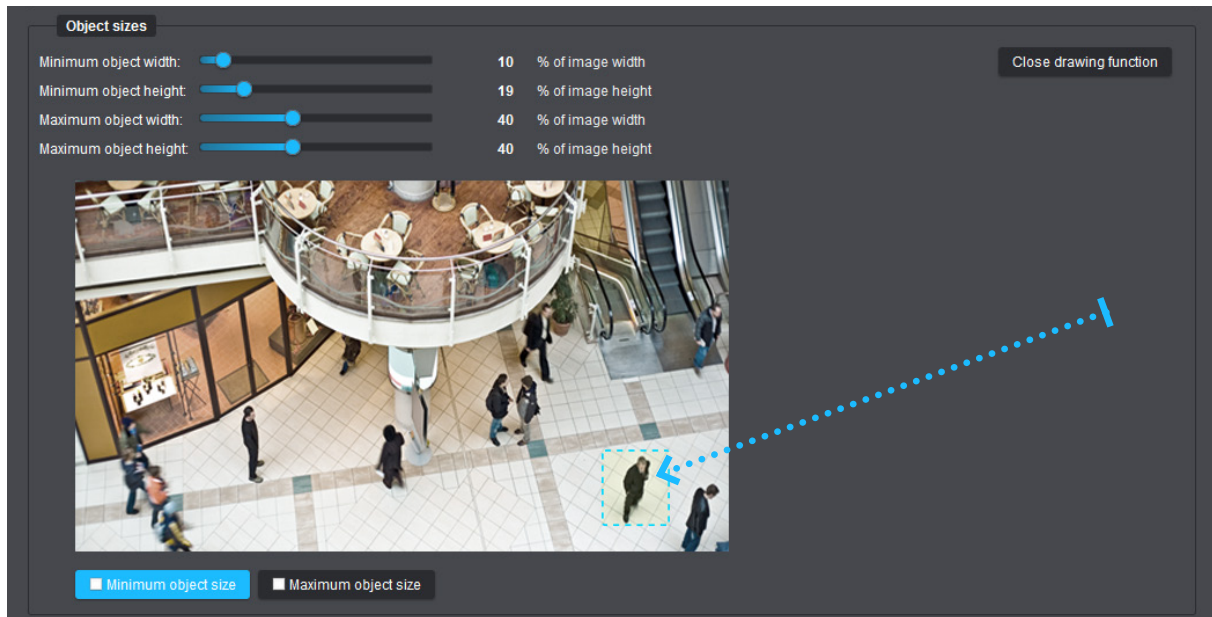

Fig. 15-7
- ▶ Click and hold the left mouse button down, then draw a rectangle for the minimum required object size by dragging the mouse pointer around a reference object of interest (see the arrow in Fig. 15-7).